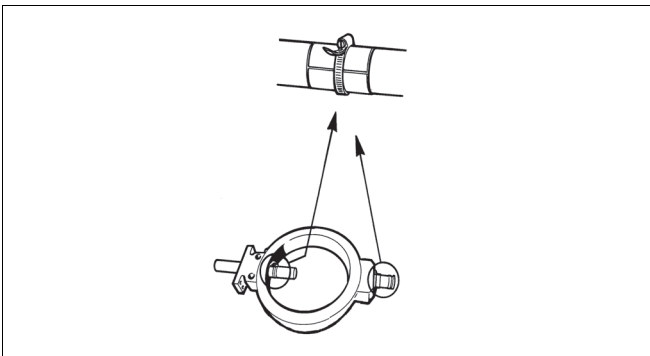

Fig. 18 Mounting the H-construction bearings
**H-construction:** Mount the bearing into the shaft. Spray a thin layer of dry lubricating fluid, e.g. Molykote 321R or equivalent, into the inside surface of the bushing and the shaft bearing groove. Press the bushing with a tightening ring into the shaft bearing groove and fit the shaft with the bearings carefully into the body through the tightening ring (see Fig. 18).